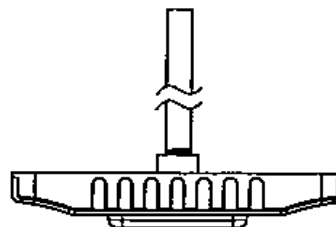

FIGURE 5
2. Screw the fixture to the 3/4" NPT Stem (Figure 5).